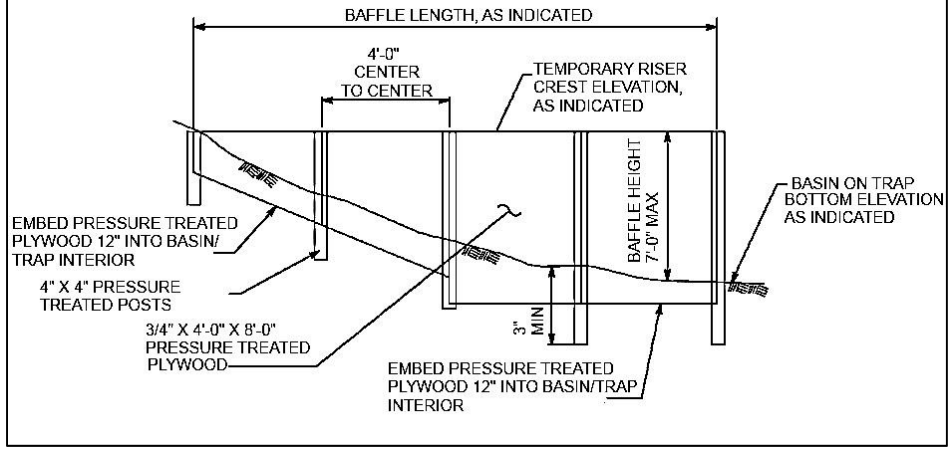

Figure 54: Temporary Baffle Wall
- Compost sock sediment traps shall not exceed 3 socks in height and shall be stacked in pyramidal form as noted in **Figure 54**. Minimum trap height is one 24" diameter sock. Additional storage may be provided by means of an excavated sump 12" deep extending 1-3 feet upslope of the socks along the lower side of the trap.